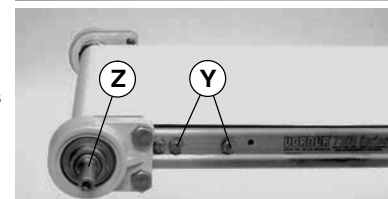

Figure 3
1. Remove screws (Y of Figure 3) from both sides of conveyor.